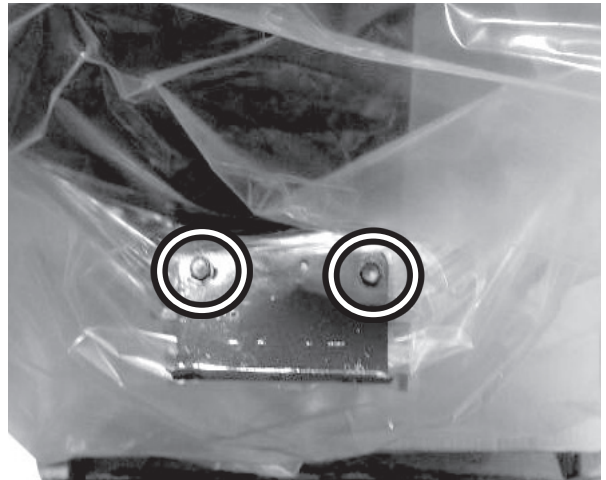

FIGURE 5: HINGE BRACKET
Step 4: Next, remove the two bolts on the rear packaging brace (see Figure 5) using a 3/8" socket. The rear packaging brace can now be removed and recycled.